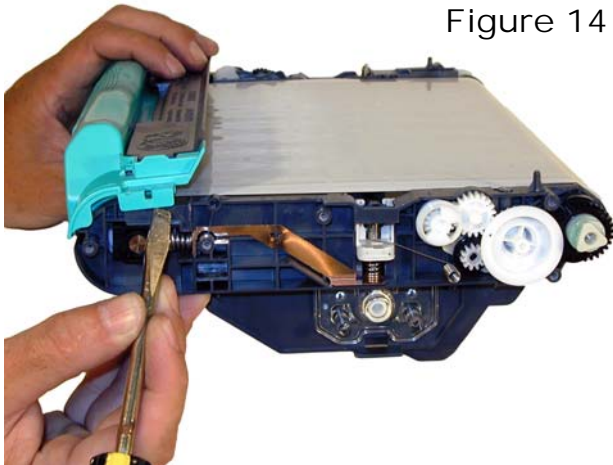

Figure 14
10) Press up on the side green handle tabs, and remove the handle. See **Figure 14**